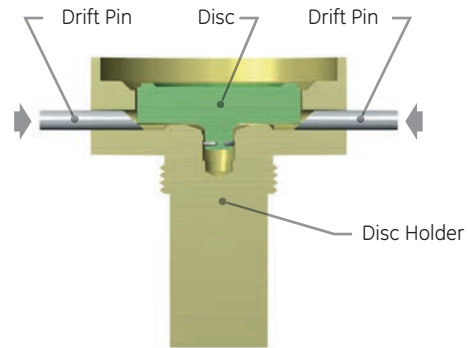

Figure 16: Removing the Disc with Drift Pins
- Start inserting special drift pins into the holes in the disc holder (see Figure 16) with the tapered portion of the pins working against the top of the disc, as indicated.